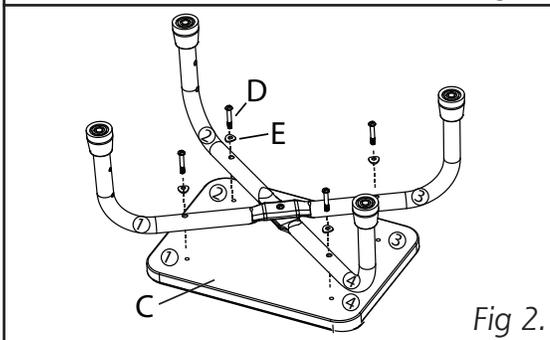

Fig 2.
- ▶ 2. Place the Footrest Base (C) upside down on a flat surface with the screw holes facing up. With the leg assembly upside down, align the holes in the legs with the threaded sockets in the footrest next to the corresponding numbers as shown in FIG. 2.